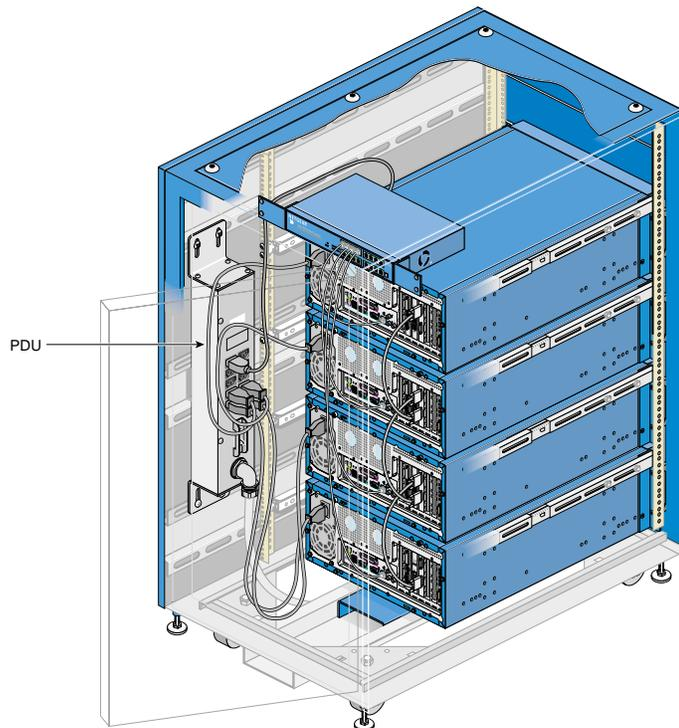

Figure 3 Node Power Cables
5. At the back of the rack, detach the power cable from the node. Refer to Figure 3.